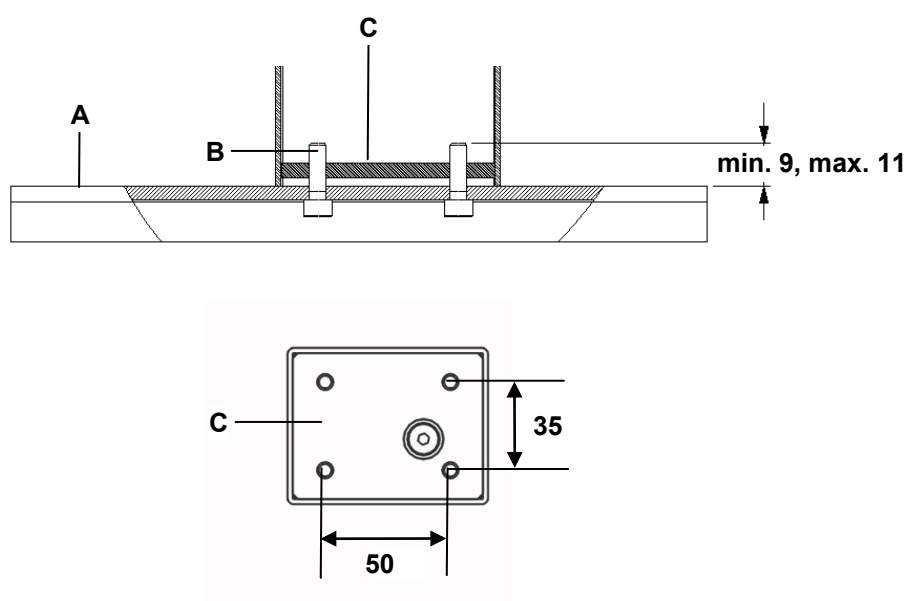
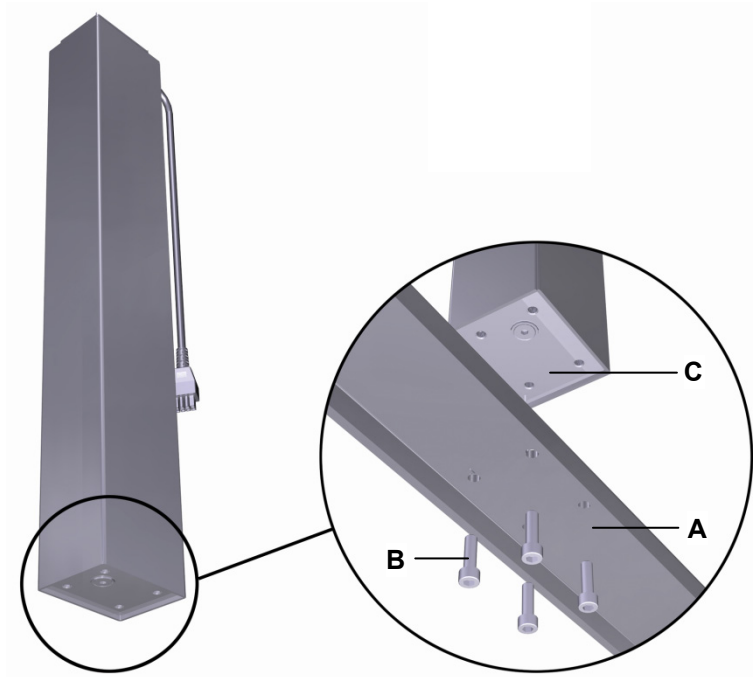

Figure17 Mounting the table base (dimensions in mm)
Figure 18 Mounting the table base:
- Use M6 bolts (with strength grade 8.8), as shown in Figure17. The tightening torque is 10 Nm.
- 1 Use four screws to attach the table base to the foot end of the ID21 lifting column, as shown in Figure 18 (tightening torque is 10 Nm). The mounting dimensions are shown in Figure 17.